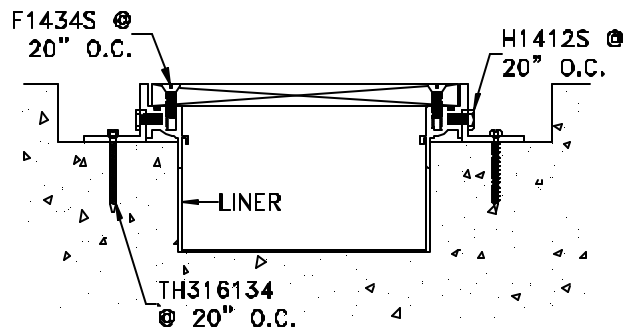

Figure 11
- STEP 21.** Using the anchors provided (part no TH316134), fasten the trench cover or access cover to the blockout (see Figure 11).